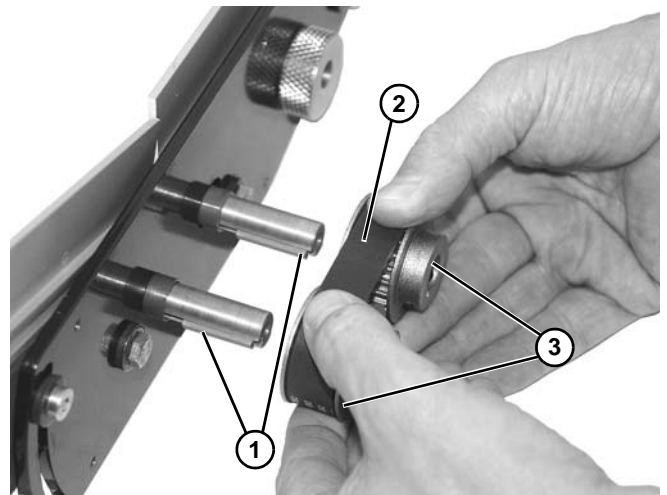

Figure 20
9. Install two keys (Figure 20, item 1).
10. Install belt (Figure 20, item 2) and both pulleys (Figure 20, item 3).